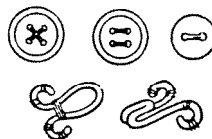

Fig. 30-C
3. Move zigzag width lever, to '0' position or to the extreme right. Place the button so that its left hole comes directly under the needle, then gently lower the presser foot. Move the zigzag width lever by turning the right stop adjustment wheel (Fig. 30-C) until the needle comes exactly over the right hole of the button. Turn the balance wheel slowly by hand to besure the needle clears both holes of the button. Correct width if necessary.